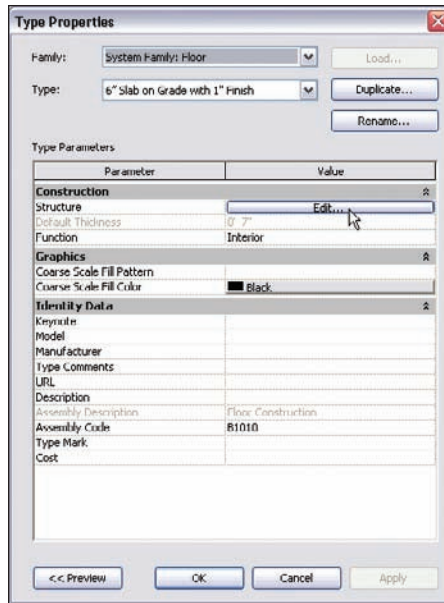

FIGURE 6.36 Editing the structure of the slab
10. Click the Edit button in the Structure row, as shown in Figure 6.36.